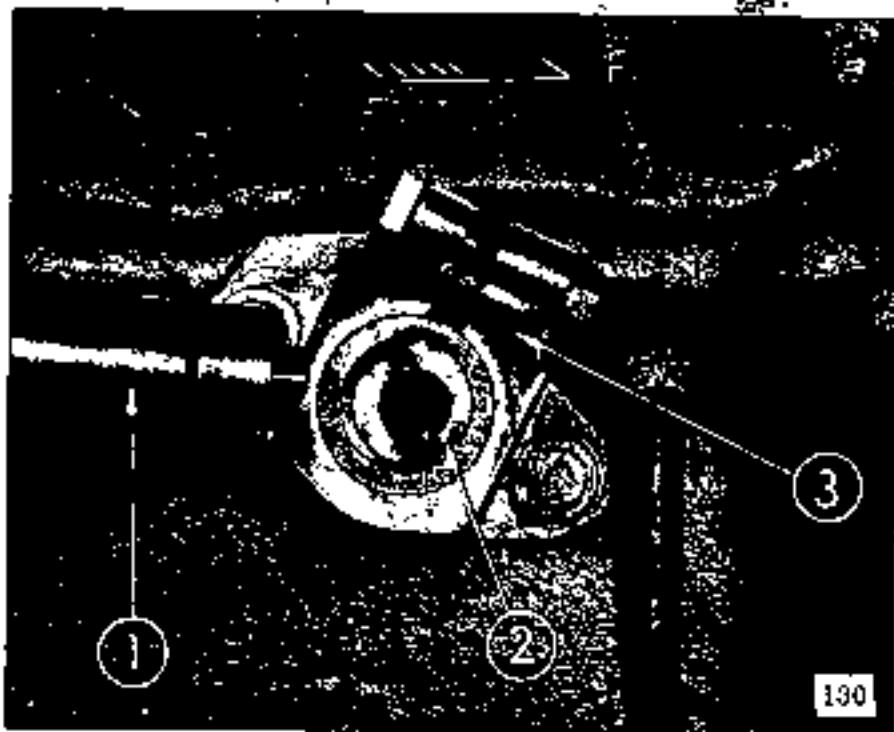

Fig. 3 Assembly Angle of Drive Shaft
4. Adjusting the direction of the rotor so that it engages the drive shaft slot, mount the distributor to the engine. During this assembly, the directions of the distributor and rotor must be as shown in Fig. 3. At the same time, the breaker must be in its position when it is just beginning to open. If these conditions do not coincide, they are made to do so by slightly turning the distributor body only. To determine the position when the breaker point is just beginning to open, turn on the ignition key, hold the end of the No. 1 spark cord about $\frac{1}{4}$ inch away from the cylinder head, and turn the body until spark jumps across the gap.